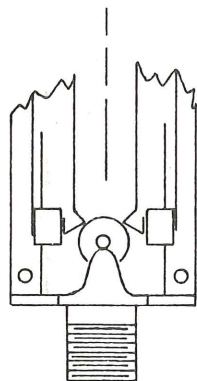

Fig. 1
- () 7. Install the Transistor Selector switch assembly (from kit) as shown in Figs. 1 and 2. Orient the switch so the 100 Ω resistor is on the TRANSISTOR A side.